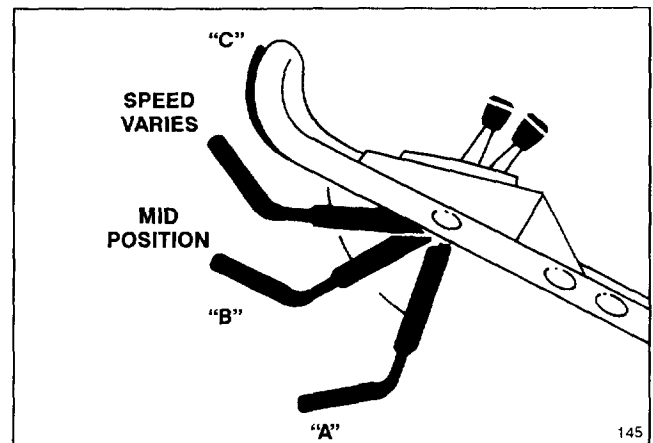

Figure 8
(Fig. 8)—Move control bar down to "A" and raise to "B" to engage blade. Squeeze control bar against handle "C" to drive. To disengage traction drive but keep blade engaged, gradually release control bar to mid position. To self-propel with blade disengaged, simply squeeze control bar against handle, eliminating downward movement necessary for blade engagement.
7. **STOPPING** (Fig. 8)—Release control bar to stop blade and traction drive. Move ground speed control to "N". To stop engine, move throttle to OFF. Remove key from switch on electric start model. Pull wire off spark plug if mower will be unattended or not used.